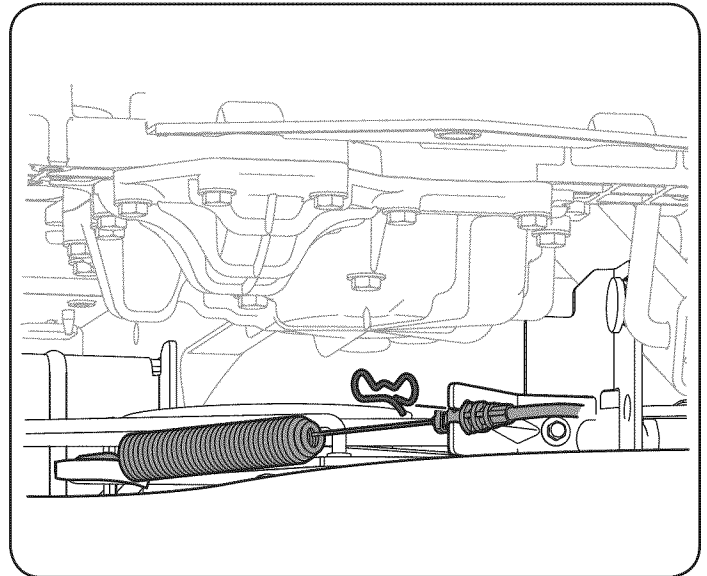

Figure 22
- Remove the bow-tie pin that secures the PTO cable to the bracket on the deck, pull back on the PTO cable, then slide it out of the bracket and unhook the spring from the idler bracket. See Figure 22.